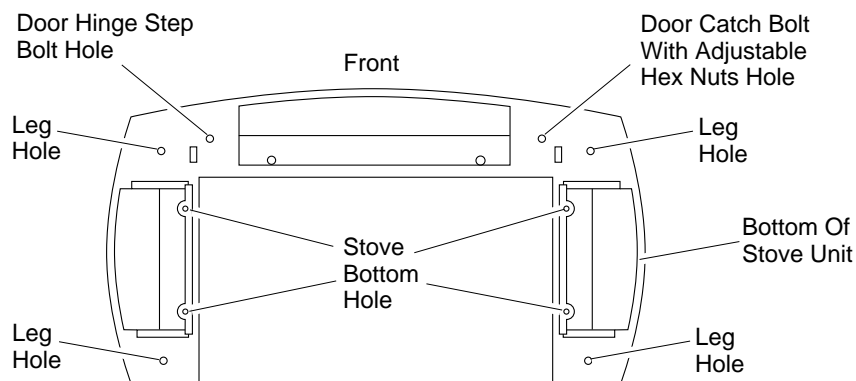
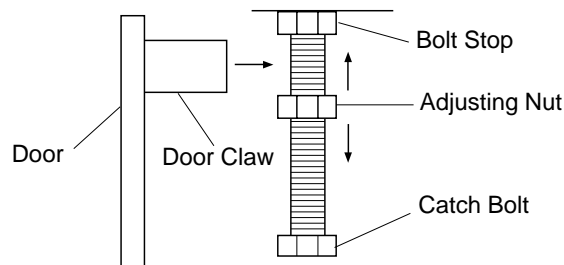

Figure 8 - Locating Threaded Holes for Stove Bottom, Legs, and Door Attachment (Appearance May Vary Depending on Model)
Figure 14 - Catch Bolt and Door Claw Orientation
8. Fasten each leg to stove with four (4) M8 x 1.25 - 20mm bolts. Use a flat washer and lock washer with each bolt. Tighten bolts into threaded holes on stove body (see Figures 8 and 9). Use an adjustable wrench or a 12mm socket.
9. Fasten stove bottom to stove with four (4) M6 x 1 - 25mm bolts. Use a flat washer and lock washer with each bolt. Tighten bolts into threaded holes on stove body (see Figures 8 and 10). Use an adjustable wrench or a 10mm socket.
8. Fasten each leg to stove with four (4) bolts. Use a flat screw driver to tighten bolt to leg. Insert bolt in threaded holes on stove body (see Figures 8 and 11).
9. Fasten stove bottom to stove with four (4) M6 x 1 - 25mm bolts. Use a flat washer and lock washer with each bolt. Tighten bolts into threaded holes on stove body (see Figures 8 and 12). Use an adjustable wrench or a 10mm socket.
10. Attach stove door by inserting step bolt through door hinge pivot hole and into threaded hole in stove body (see Figures 8 and 13). Use an adjustable wrench or a 12mm socket to fasten step bolt. Tighten step bolt until snug. Make sure door moves freely.
11. Install door catch bolt (M8 x 1.25-55mm with two M8 hex nuts) into threaded hole on stove body (see Figure 8, page 9). Use an adjustable wrench or a 12mm socket. The catch bolt has two hex nuts attached to it (see Figure 14). The top nut is a bolt stop and the bottom nut is for door leveling adjustment.
16. Fasten back panel to stove with six (6) M6 x 1 - 20mm bolts and washers. Make sure product identification label is located on the outside in lower left-hand corner.